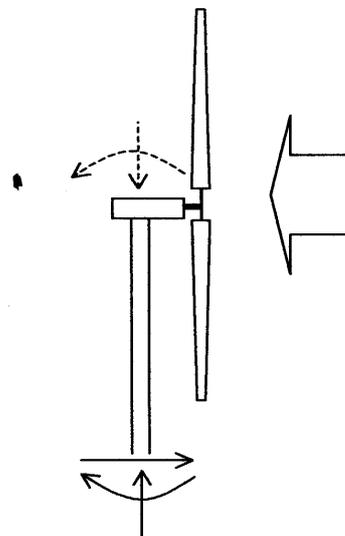

Figure 4.2: Forces maintaining the half in the air (plain lines) turbine
- b) In direction: clockwise, as drawn on fig. 4.2 (plain line)
If you only provide the required resisting bending moment at the base of the half-turbine to resist the wind force, it will indeed prevent the turbine to rotate but the turbine will move to the left. Therefore you also need to apply at the base a horizontal force of magnitude equals to the wind force and of opposite direction to the wind force, as illustrated on figure 4.2.